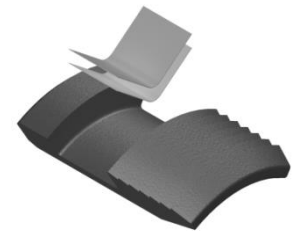

Fig. 3
**NOTE7:** Uses two (2ea) springs per slip (Fig. 3).